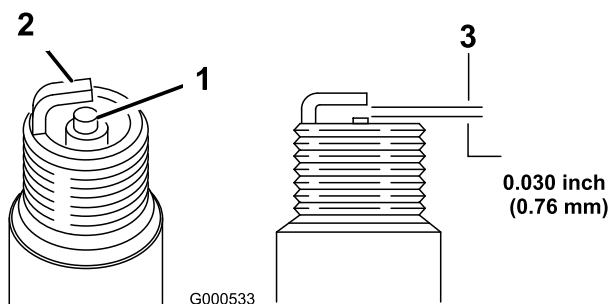

Figure 29
5. Set the gap on the plug to 0.76 mm (0.030 inch) (Figure 29).